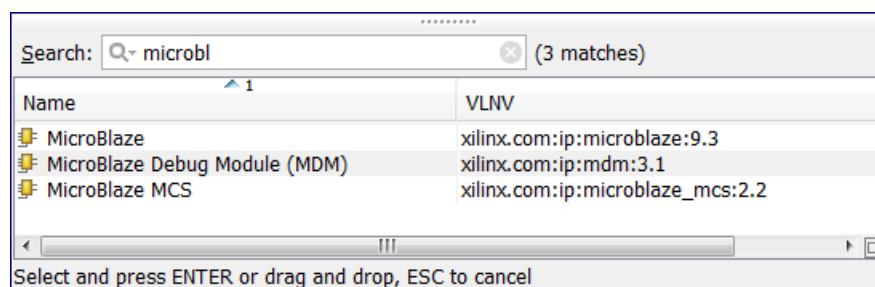

Figure 98: Search Field
5. In the Search field, type **microblaze** to find the MicroBlaze IP, then select MicroBlaze and press the **Enter** key (FIGURE 98).